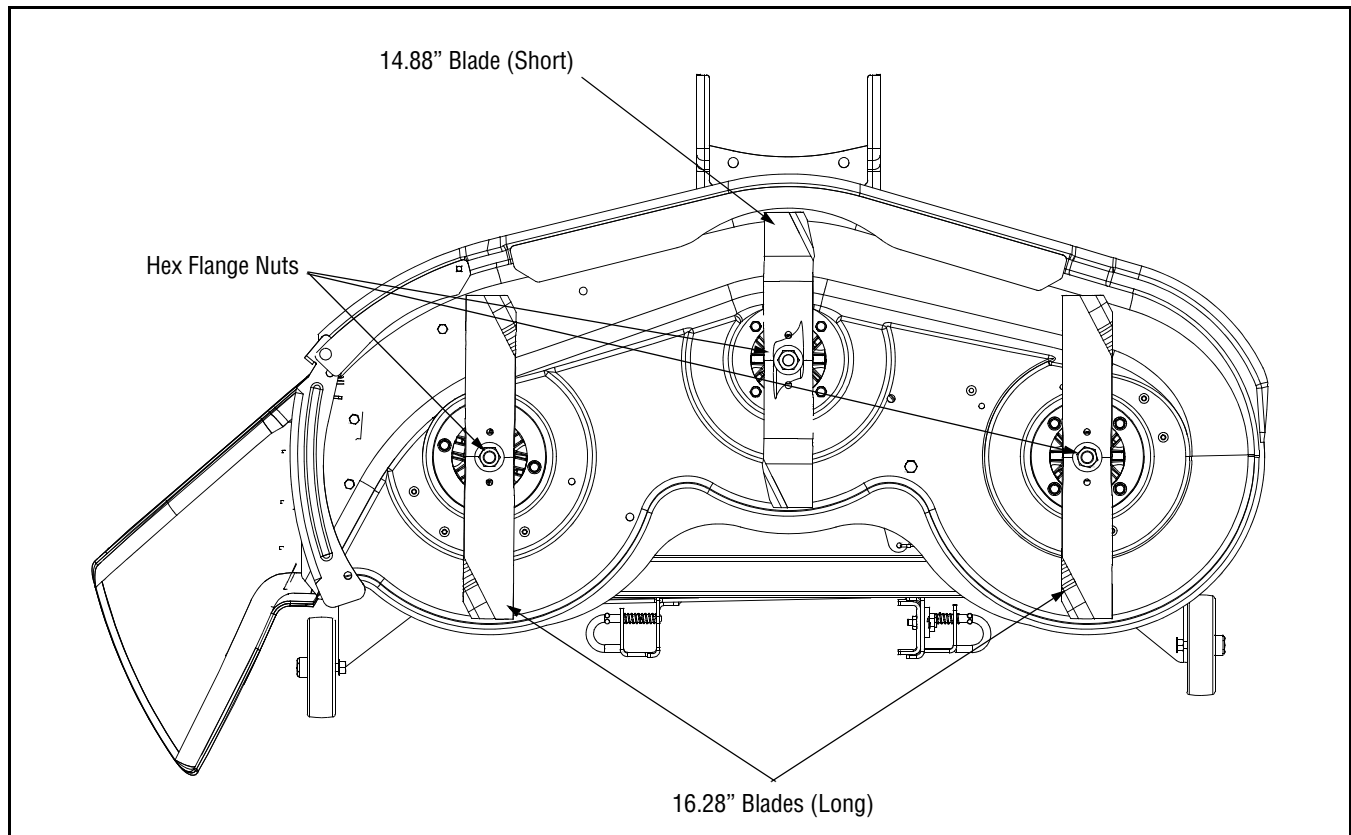

Figure 1
3. Replace the blades with the blades included in the kit. Be sure to install each blade with the side marked "Bottom" (or with a part number stamped in it) facing the ground when the mower is in the operating position. Be certain to mount the **SHORT BLADE** to the **CENTER SPINDLE**. Refer to Figure 1.